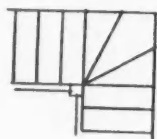

Fig. 2
1. Stairs should be free from winders. (Fig. 2)